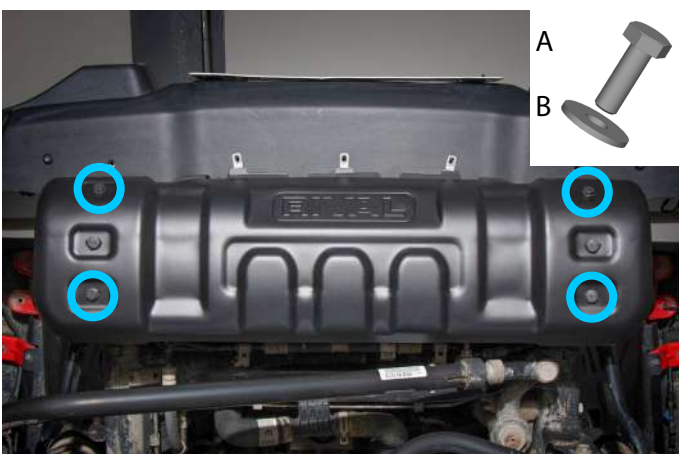

Fig. 6
8. Secure the lower bumper skid plate (item 1) using bolts M10x30 (item A) and washers 10 (item B), as shown in fig.6.